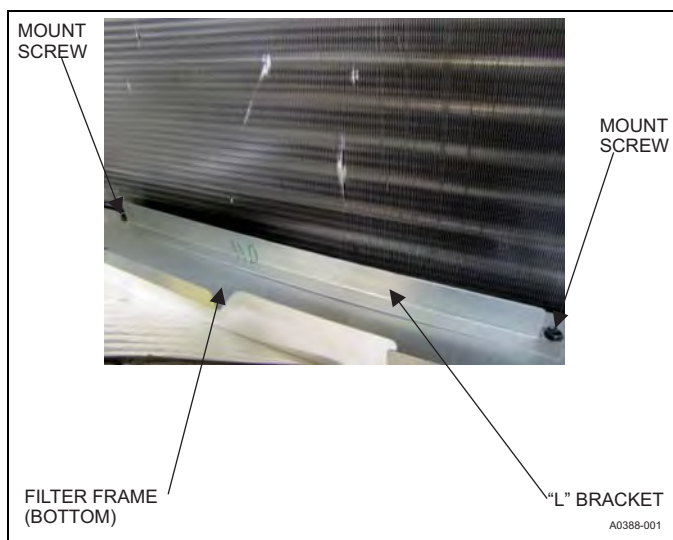

FIGURE 8: “L” Bracket Installed
- b. For 2” filter only, use one “L” bracket to support filter from behind. Secure each end of “L” bracket to filter frame (bottom) with mount screw. See Figure 8.
- For 1" filter, use first "L" bracket to support filter from behind and second "L" bracket to support filter from front. See Figure 8.